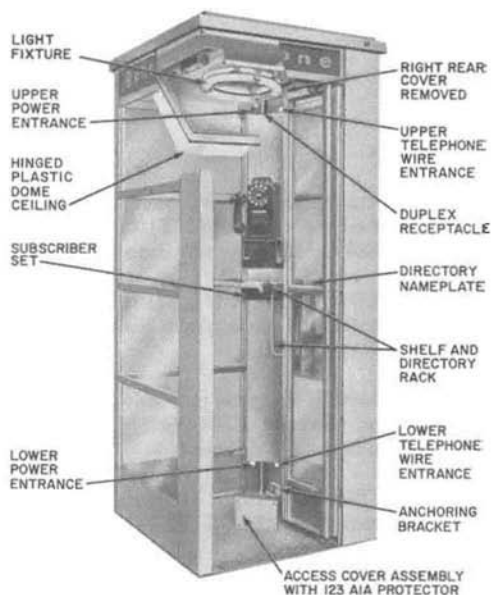

Fig. 2—KS-14611 Booth Showing Individual Features
BASIC BOOTH (Fig. 2)
- 2.14 Access covers (Fig. 2), located at the top and bottom of the right-rear column, provide access to the channels from inside the booth.